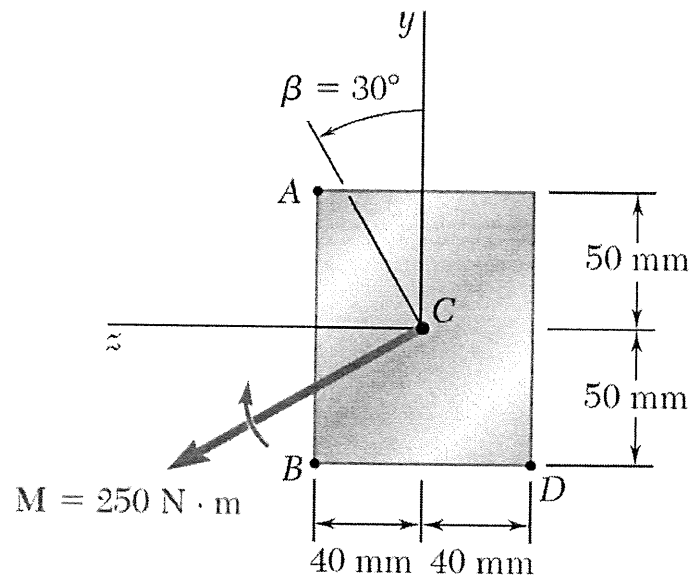

Figure 6
- a) The couple 250 Nm is applied to a beam of the cross section in a plane forming an angle 30° with the vertical shown in Figure 6.